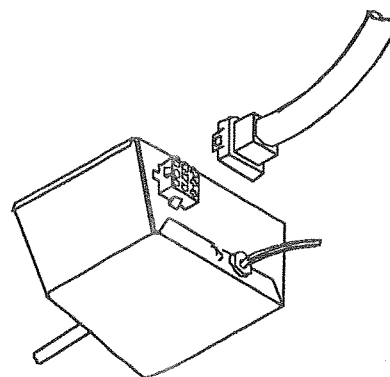

FIGURE 8
- Take the roof top air conditioner 115 V.A.C. electrical conduit and plug it into the back of the thermostat control box. Make sure that the "ridged" side of the plug is aligned and matched with the "ridged" side of the thermostat control box connection. DO NOT USE EXCESSIVE FORCE and make sure the lock-in tabs are snapped in place. See Figure 8.